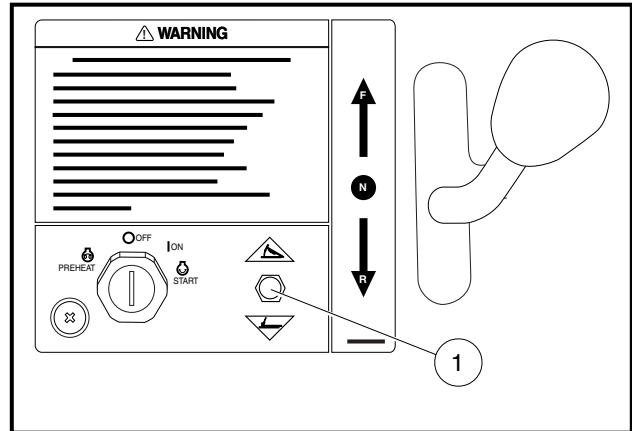

Figure 2 Bed Lift
The electric bed lift switch (1) is located on the instrument panel to the right of the key switch (**Figure 2**). To lift the bed, pull up and hold the toggle switch in the upper position. Release switch to stop lifting operation. To close the bed, press down and hold switch in the lower position. The bed lift will make a loud clicking sound to signal the bed is in the rest position.